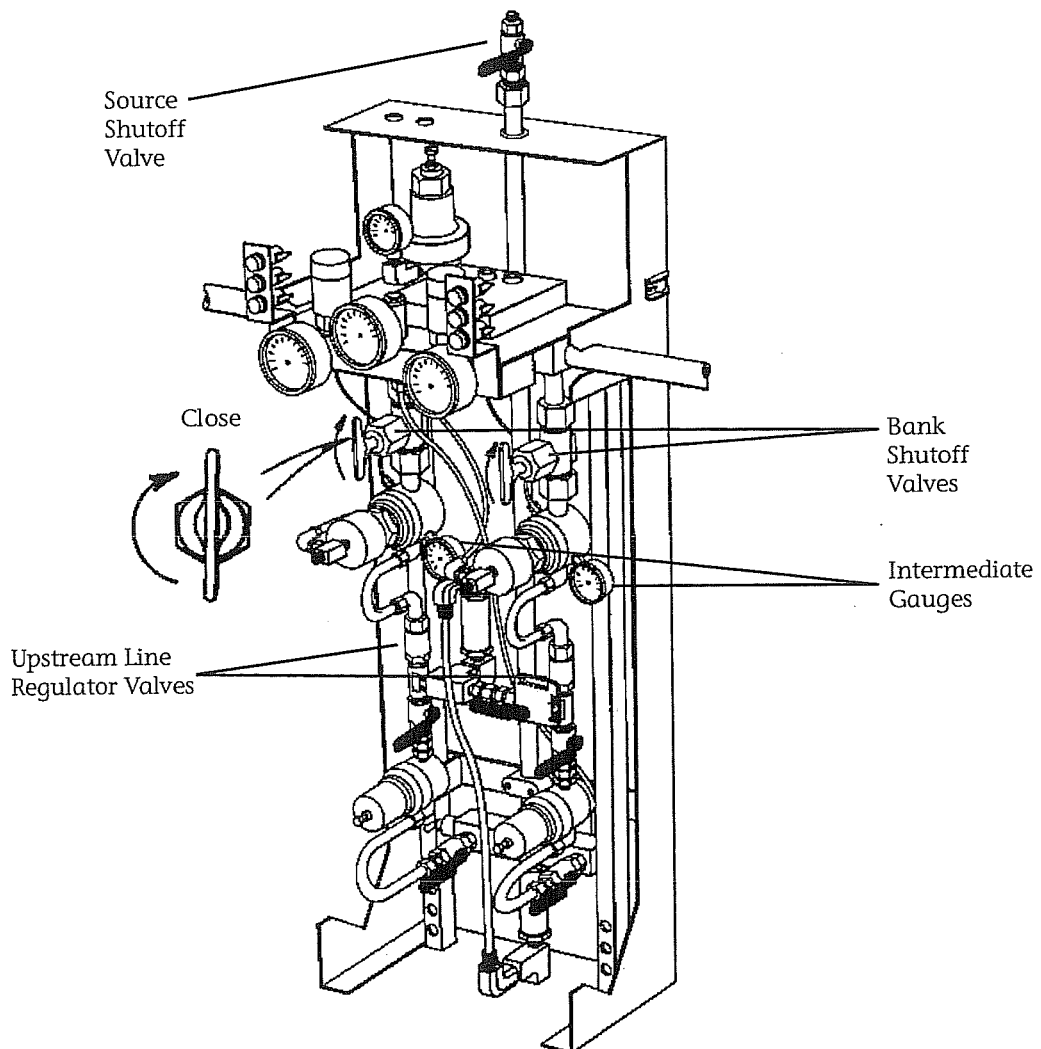

Figure 2-19
1. Close the shutoff valve in the medical gas delivery line immediately downstream of the manifold. (Figure 2-19)
3. Record the pressure displayed in each of the three gauges at the top of the manifold and the two intermediate gauges in the middle of the manifold. (Figure 2-19)
4. Close the left bank and right bank shutoff valves. (Figure 2-19)
5. Close the left side and right side upstream line regulator valves. (Figure 2-19)